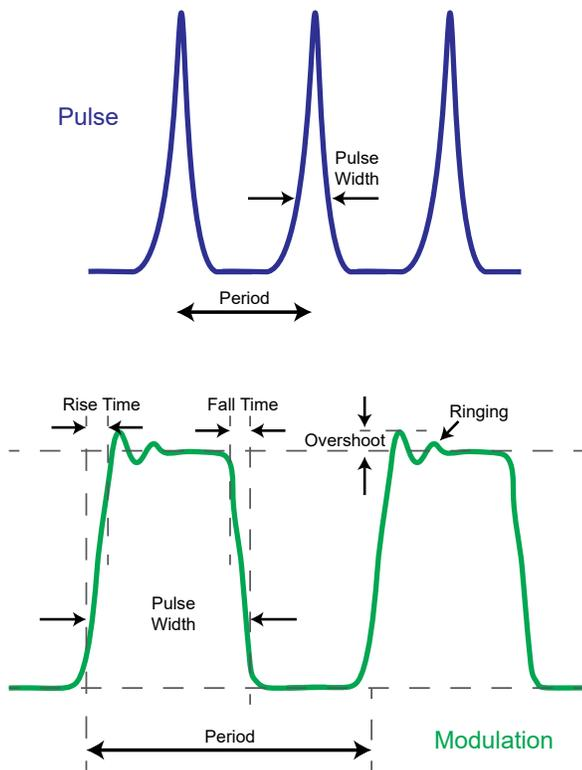

Figure 12. Pulsed (top) and Modulated (bottom) laser beam output power
It is a common mistake to confuse modulation with pulsing. A pulsed laser releases large bursts of energy periodically as seen in Figure 12. This is usually a much higher peak power than continuous wave (CW) and a much higher frequency. Pulses can have durations as short as femtosecond, but CW modulation pulses can only reach microsecond durations. A pulsed laser can have, for example, an average power of only a few μW but a peak power of a few hundred mW. This is due to the low duty cycle (fraction of the time the laser is turned on per period) because of the short laser pulses compared to the time no pulsed is emitted. A laser that is modulated is simply turning on and off periodically at a much lower frequency (Figure 12). The average power of a modulated laser will be the peak power multiplied by the duty cycle. A max power is set, and the frequency of the on and off does not change the max power. Rise time, fall time, and overshoot are all important factors when modulating the laser.
Rise times and fall times will never be instantaneous. The rise time is how quickly the signal changes from 10% of maximum to 90% of maximum, and the fall time is the opposite. This can be seen in **Figure 12** which shows a typical output for a square wave modulation input.